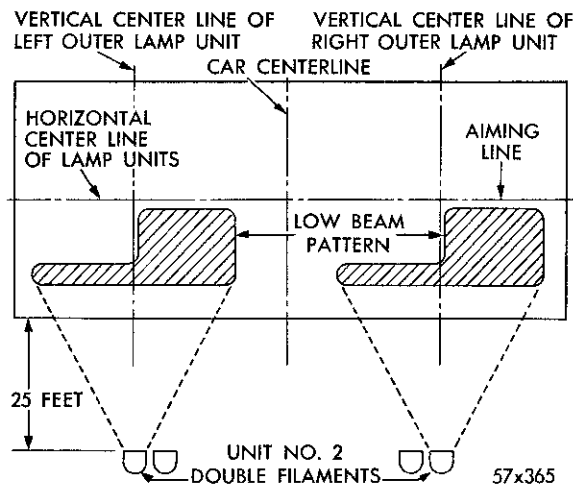

Fig. 32—Unit No. 2 Lower Beam—Upper Beam Unit
2. The Sealed Beam with the numeral "2" molded into the top of the lens is a two-filament—lower beam—upper beam unit. (Fig. 32). The No. 1 units are aimed by aiming the geometrical center of the hot spot straight ahead and "2" below headlight center height on a screen 25 feet in front of the light.